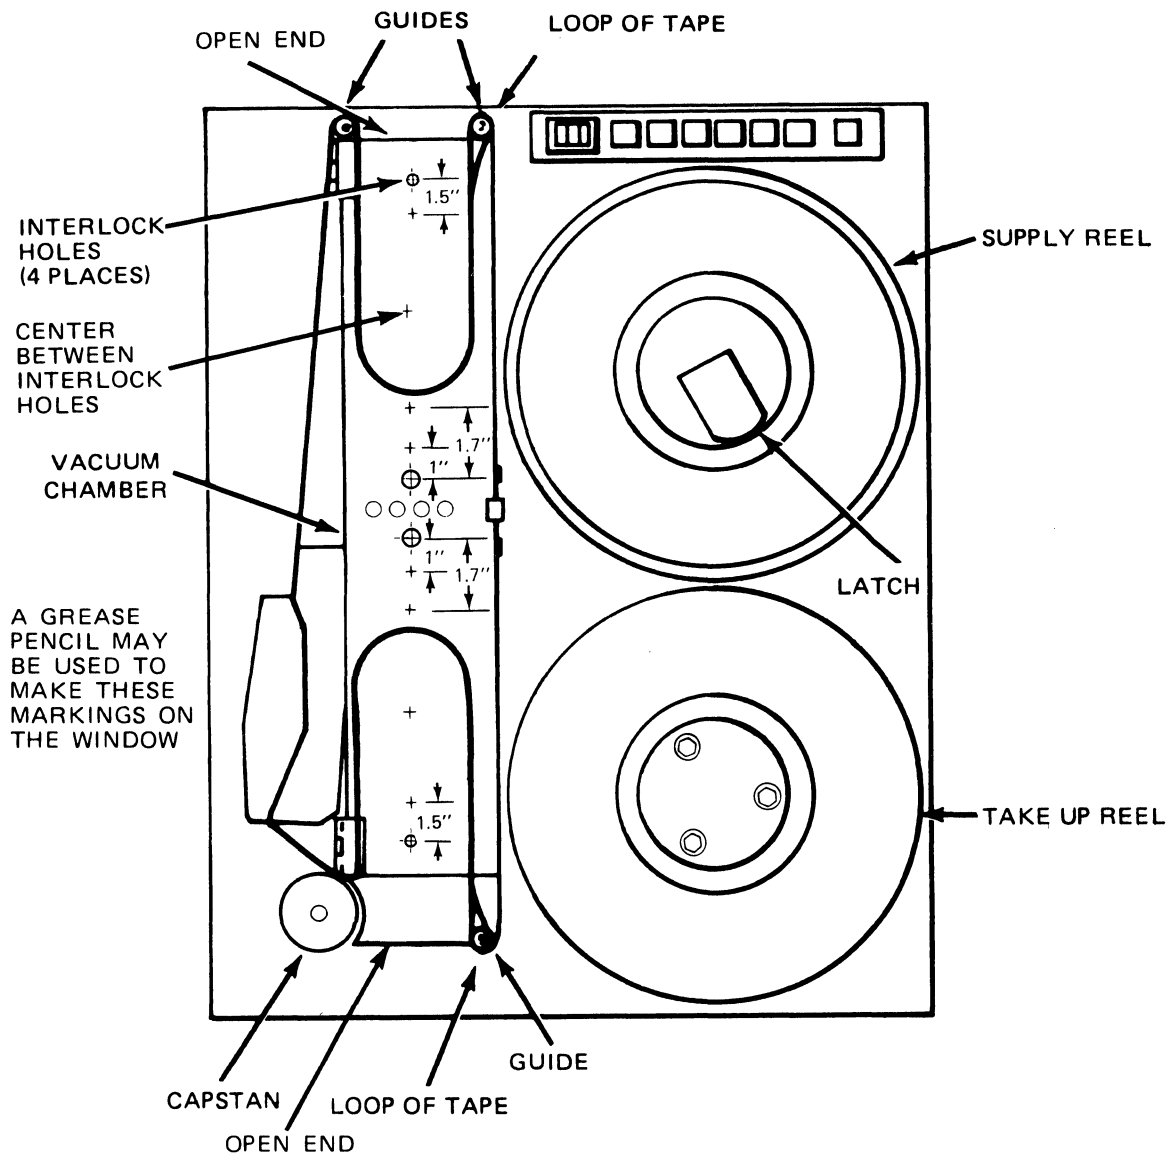

Figure 5-3. Tape Loop for Vacuum Column Servo Adjustment
- b. Remove the head covers. Load a loop of tape in the vacuum chamber as shown in figure 5-3.
- c. Position tape loop so that tape intersects a point $\frac{1}{4}$ inch from vacuum column wall and half the distance between interlock holes (figure 5-3). Adjust potentiometer R6006 for indication of zero volts ($\pm 10\text{mV}$) on digital multimeter.
- c. Position the tape loops so that tape intersects a point half the distance between interlock holes (figure 5-3). Adjust potentiometer R7006 for an indication of zero volts ($\pm 10\text{mV}$) on the digital multimeter.